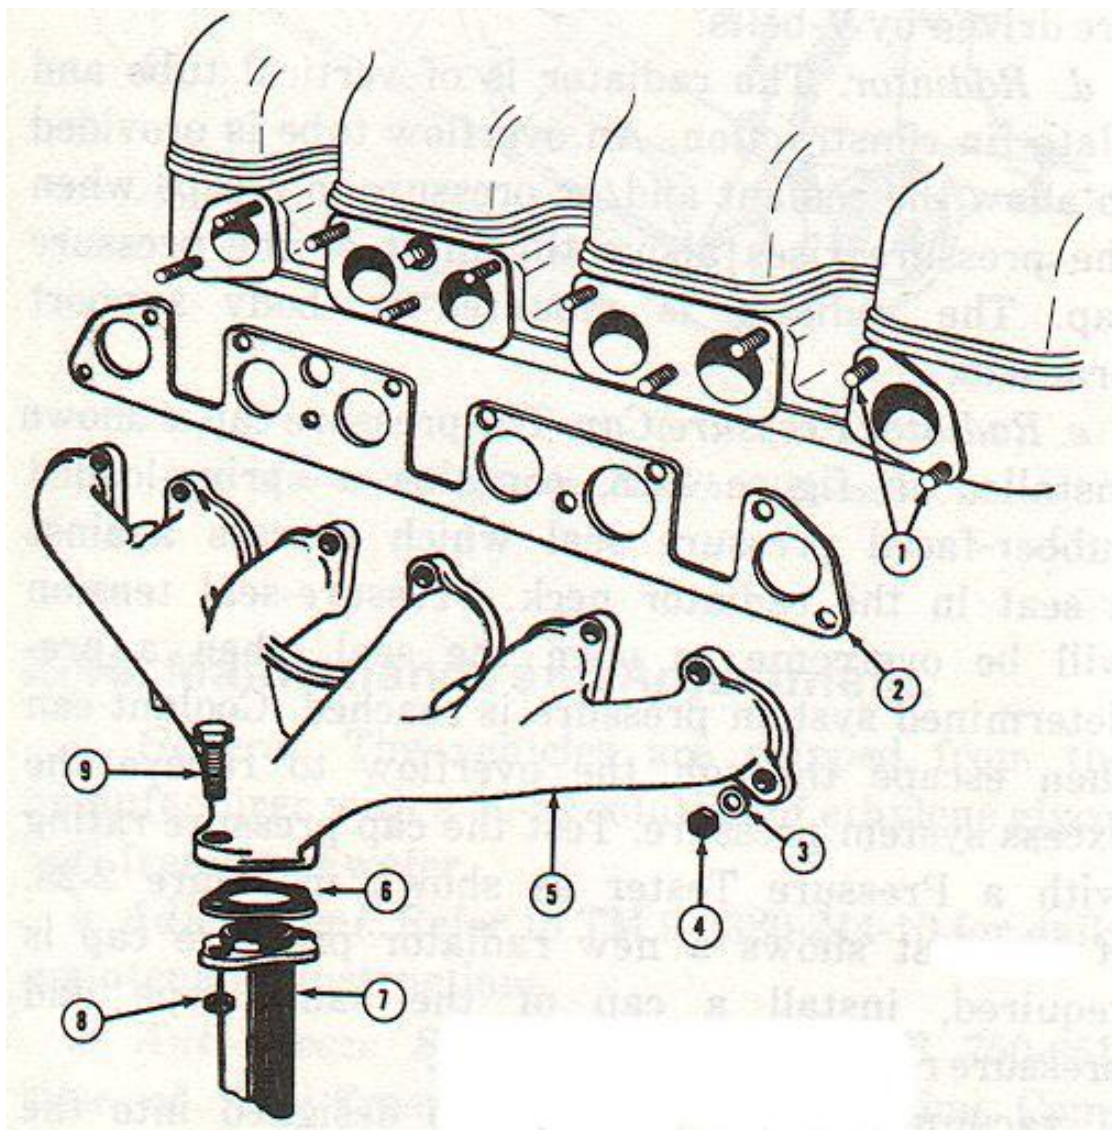

Figure 2-21. Exhaust manifold
- (1) Remove two nuts and bolts which secure exhaust pipe to exhaust manifold. Discard gasket.
- (2) Remove three bolts and nuts securing exhaust pipe to exhaust pipe extension flange. Discard gasket.
- (3) Remove exhaust pipe U-bolt clamp bracket at frame crossmember, near transmission.
- (4) Remove three bolts and nuts which secure exhaust pipe extension to muffler inlet pipe companion flange. Discard gasket.
- (5) Remove exhaust pipe and exhaust pipe extension.
g. Exhaust Manifold. (Fig 2-21)
- (1) Remove two hex nuts, bolts and remove exhaust pipe.
- (2) Remove ten hex nuts and flat washers and remove exhaust manifold.